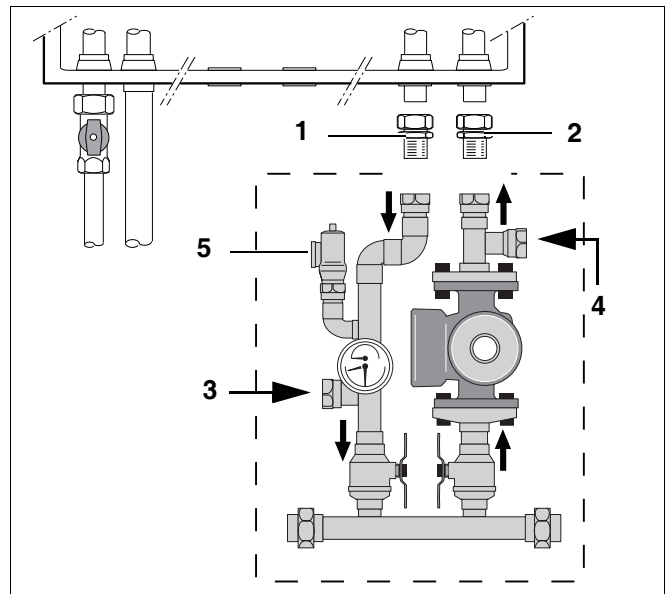
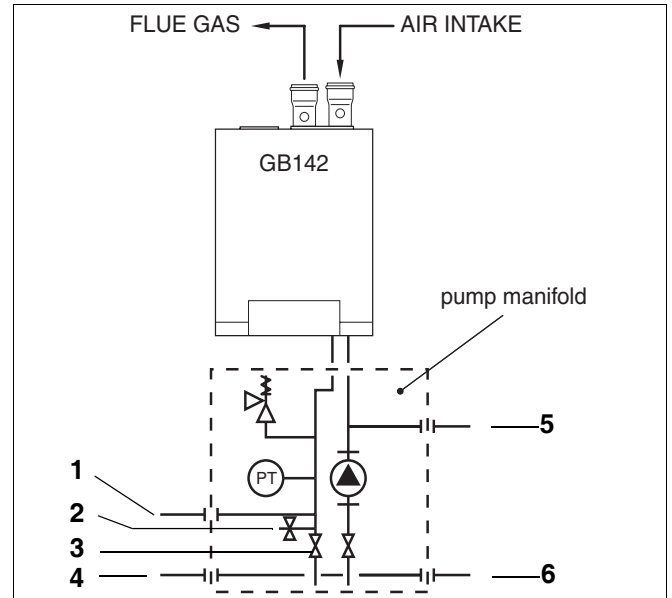

Fig. 9 Pump manifold installation
Fig. 10 Schematic representation of the boiler with the hydronic set
- Fit the compression fittings (fig. 9, pos. 1 and 2) first to the Hydronic set (see fig. 10, 11 and 12) and then to the boiler.
Fig. 10 is a schematic representation of fig. 9.
- Install the relief valve according fig. 10. The relief valve must comply with following specifications: